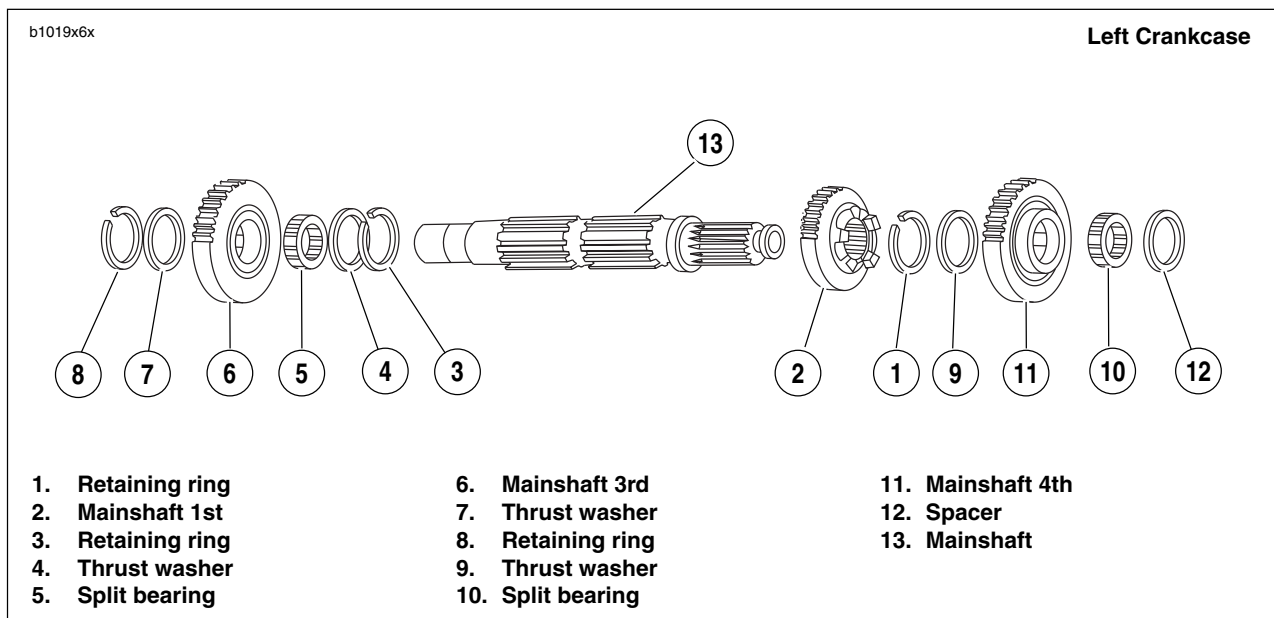

Figure 6-68. Transmission Mainshaft Assembly/Reassembly
1. See Figure 6-68. Install **new** retaining ring (1) onto mainshaft in the first ring groove from the threaded end of the mainshaft.
2. Slide mainshaft 1st gear (2), identified by two grooves in gear teeth, onto mainshaft with the fork groove facing mainshaft 4th gear (10).
3. See Figure 6-68. Install **new** retaining ring (3).
- a. Install thrust washer (4) onto mainshaft.
- b. Install split bearing (5) onto mainshaft.
- c. Install mainshaft 3rd gear (6) onto shaft over bearing (5). 3rd gear is installed with shifting lugs away from 1st gear mainshaft.
4. Install thrust washer (7) and **new** retaining ring (8) next to mainshaft 3rd gear (6).
5. Install thrust washer (9) on threaded end of mainshaft next to retaining ring (1).
6. Install split bearing (10) onto mainshaft next to thrust washer (9).
7. Install mainshaft 4th gear (11), which can be identified by the two radial grooves on one side, onto mainshaft over split bearing (10) and against thrust washer (9).
8. Install spacer (12) onto end of mainshaft.